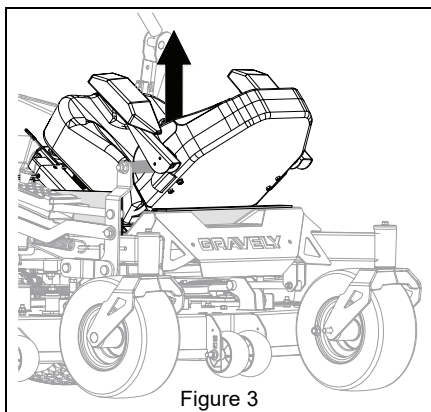

Figure 3
3. Remove seat from access plate. See Figure 3.